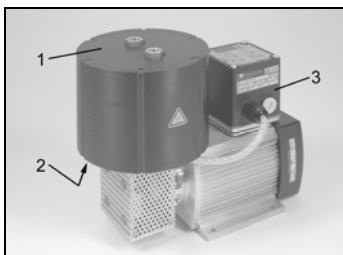

Fig. 2: Explanation of important elements on the basis of example UN 012 ST.26 I
1. Take off the housing for the electronics or terminal cover (see fig. 2); to do this, release the four screws.